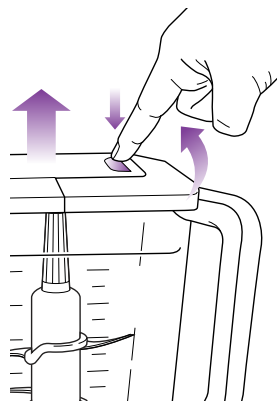

Fig. 5
- 7 If the ingredients stick to the side of the pitcher, stop the appliance by pressing the power button and wait for the blades to stop turning. Then remove the lid by pressing the release button, lifting the handle up and pulling straight up. (Fig. 5) Use a spatula to dislodge the pieces, replace the lid and continue processing.